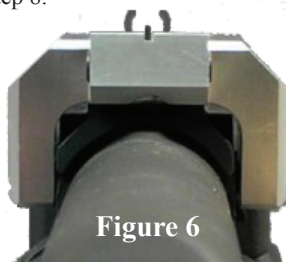

Figure 6
- 6.5 The base can now be used as a traditional rear sight. (See figure 6)